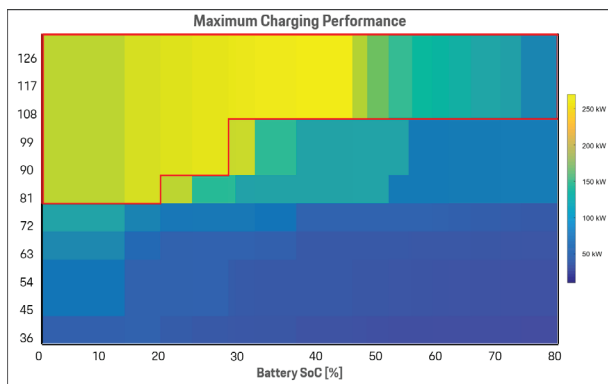

Figure 7
- The Maximum Charging Performance chart (Figure 7) provides an indication of how the HV Battery Temperature and SoC conditions at the start of a charging session affect the theoretical maximum charging rate under ideal conditions.